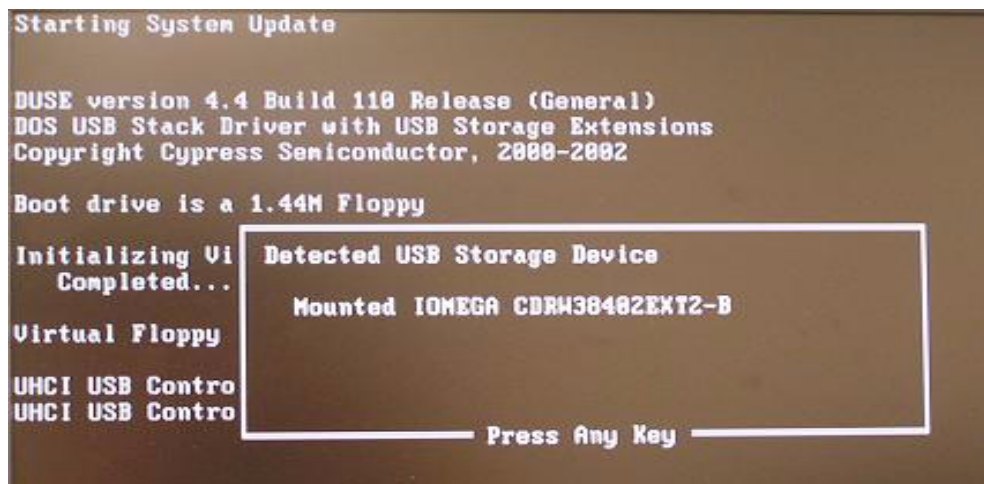

Figure 3-19 System Update
- 4.) Turn on the system. system will detect the CDRW automatically as shown in Figure 3-19 on page 3-28.
- 6.) Press any key to continue when below message display as shown in Figure 3-19 on page 3-28.